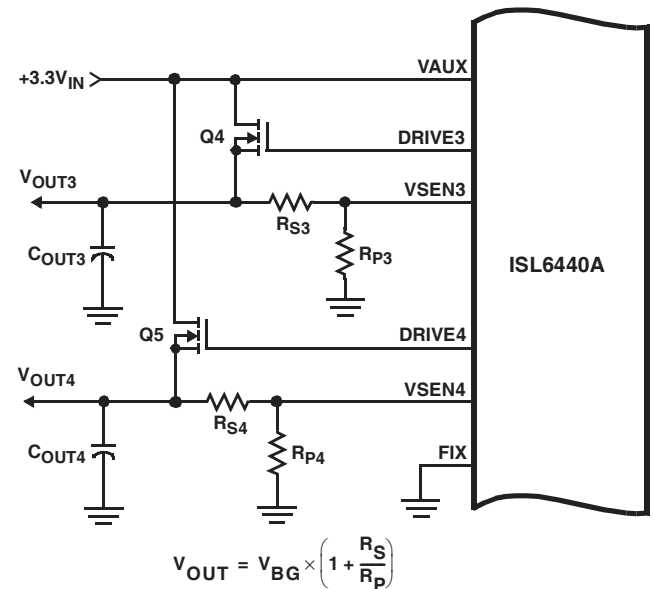

FIGURE 6. ADJUSTING THE OUTPUT VOLTAGE OF OUTPUTS 3 AND 4
The GTL bus voltage (1.5V, OUT3) and the chip set and/or cache memory voltage (1.8V, OUT4) are internally set for simple, low-cost implementation in typical Intel motherboard architectures. However, if different voltage settings are desired for these two outputs, the FIX pin provides the necessary adaptability. Left open (NC), this pin sets the fixed output voltages described above. Grounding this pin allows both output voltages to be set by means of external resistor dividers as shown in Figure 6.